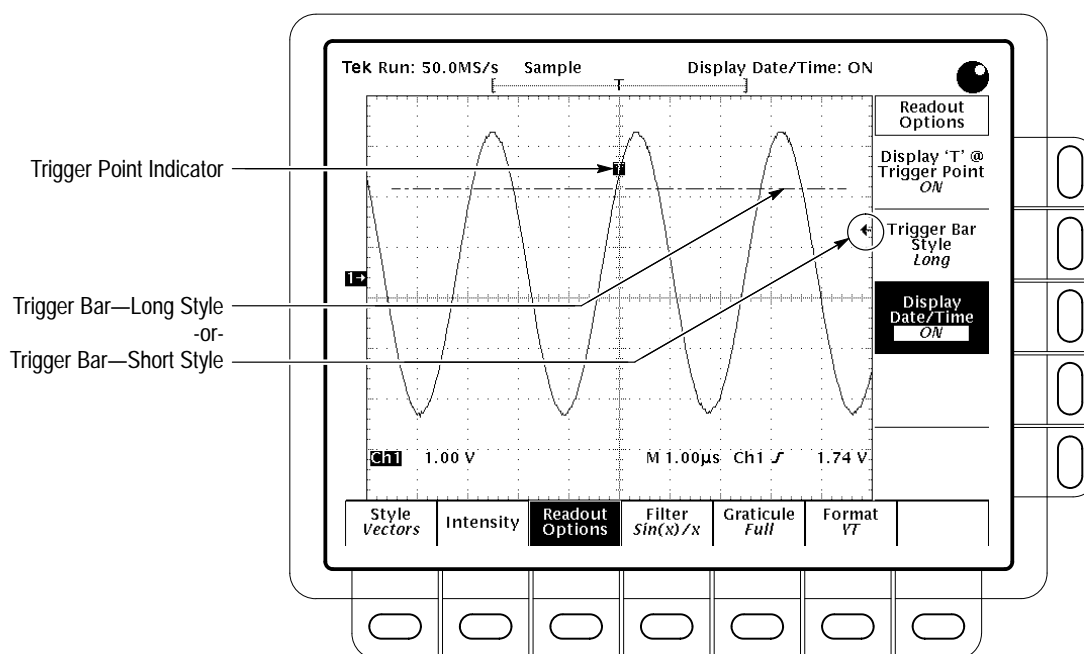

Figure 3–12: Trigger Point and Level Indicators
3. Toggle **Trigger Bar Style** (side) to select either the short or the long trigger bar or to turn the trigger bar off. (See Figure 3–12. Note that both styles are shown for illustrating purposes, but you can only display one style at a time.)